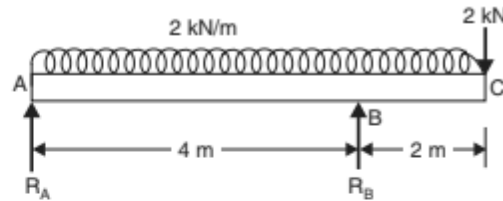

Fig. 5.20
**Problem** . A beam  $AB$  of span  $4\text{ m}$ , overhanging on one side upto a length of  $2\text{ m}$ , carries a uniformly distributed load of  $2\text{ kN/m}$  over the entire length of  $6\text{ m}$  and a point load of  $2\text{ kN}$  as shown in Fig. 5.20. Calculate the reactions at  $A$  and  $B$ .